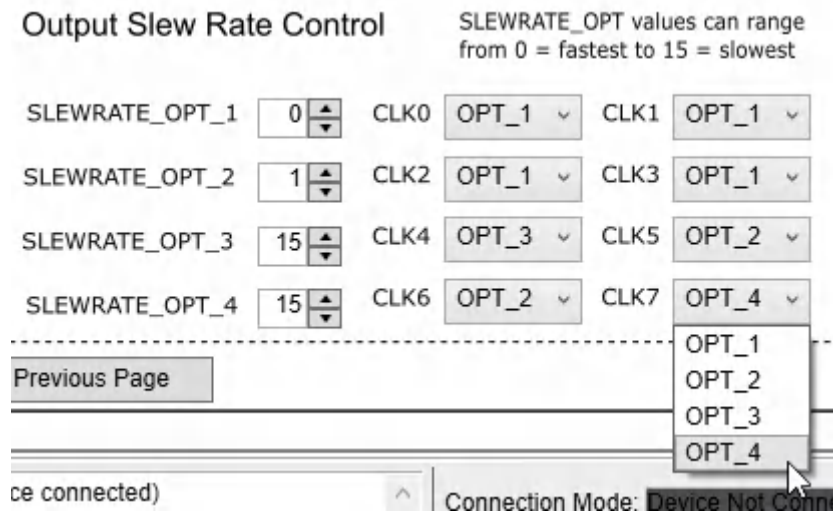

Figure 4-5. Setting Output Slew Rate Example in TICS Pro
- a. Following the example from step 1a, if you wanted CLK0, CLK1, CLK2, and CLK3 to have the fastest slew rate, CLK4 and CLK7 to have the slowest slew rate, and CLK 5 and CLK6 to have the second fastest slew rate, set the drop-down menus of CLK0, CLK1, CLK2, and CLK3 to OPT_1, CLK4 and CLK7 to OPT_3 or OPT_4, and CLK5 and CLK6 to OPT_2 as shown in Figure 4-5. Repeat this step to set the slew rate of the other 12 outputs.